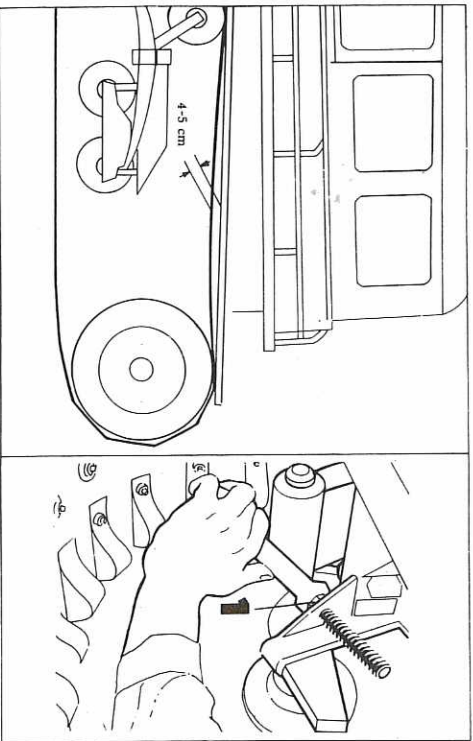

Fig. 15
2. The tension is checked on the upper part of the track between the front support wheel and rear drive wheel. Place a straight-edge or similar on top of the track between the points at which it is supported. The tension of the track is correct when it sags 4-5 cm (1 3/16"-1 9/16") as shown in the figure 15.
3. Tighten the tracks if necessary by moving the rear wheels with the nuts on the adjusting screws 1, fig. 15.
3. Slacken the crawler track tension with the nut 1, fig. 15.